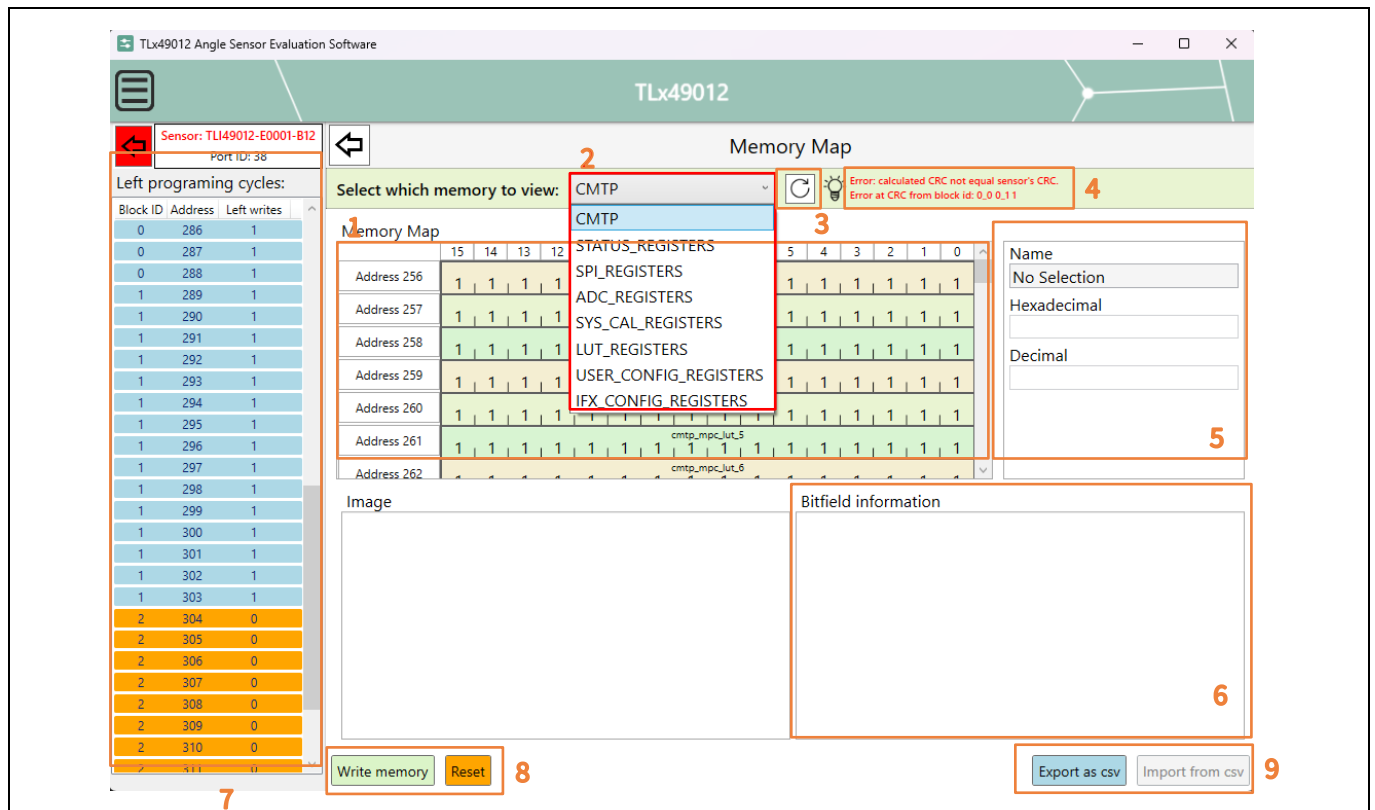
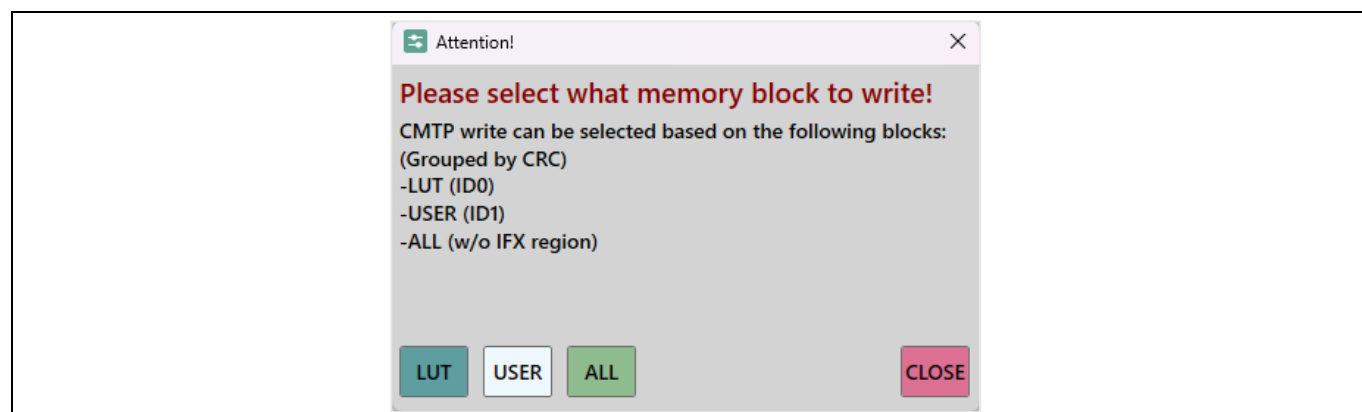

Figure 56 Software usage – Memory Map view
Figure 59 Software usage – CMTMP writing selection
The **Memory Map** view is accessible by clicking the corresponding button in the software main menu. The open view is shown in Figure 56.
The **Memory Map** view functionalities and features can be divided into the following groups, highlighted in Figure 56:
The CMTTP/NVM memory of the sensor can be grouped into blocks, based on the information they contain, each protected by CRC. The block identification can be found under the "Block ID" column in the left programming cycles as seen in (7) of Figure 56 and are assigned as such:
You can only write Block 0 and 1 for a limited number of times, Block 2 being fused from the factory. A virgin CMTTP line is read as 0xFFFF. Configurations in the CMTTP must be manually done by selecting the bitfield or line and writing the desired values in the control textbox (5) as shown in Figure 56. Reserved or unused bitfields must be set to zero. Alternatively, the CMTTP can be imported via the **Import from csv** button. This automatically checks and loads a .CSV file from you. This .CSV file is first checked and rejected if any problems arise. You can get .CSV files by exporting them from this menu, or from the **CMTTP Configuration** tab from the **Extended Sensor Configuration** window.
Write the CMTTP memory with the data by clicking the **Write Memory** button (8) as shown in Figure 56. This will recalculate the CRC for each block. You will be prompted to select which part of the CMTTP to be written as seen in Figure 59. Software checks available write cycles for each line and for each CRC of each block, in case of any inconsistencies the operation is aborted.